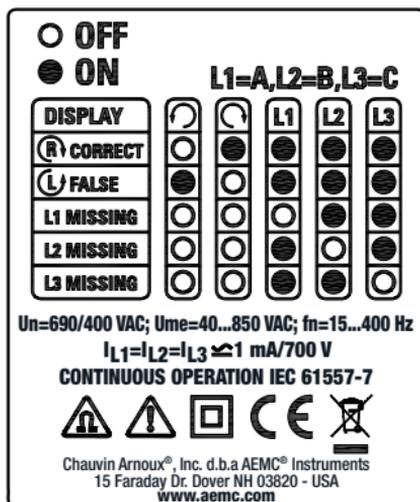

Figure 2
**WARNING:** The wrong direction of rotation may be displayed if a lead is connected in error to the neutral conductor. Refer to the instrument's back label (see Figure 2 in § 3.3.1) for a summary of the various display possibilities.